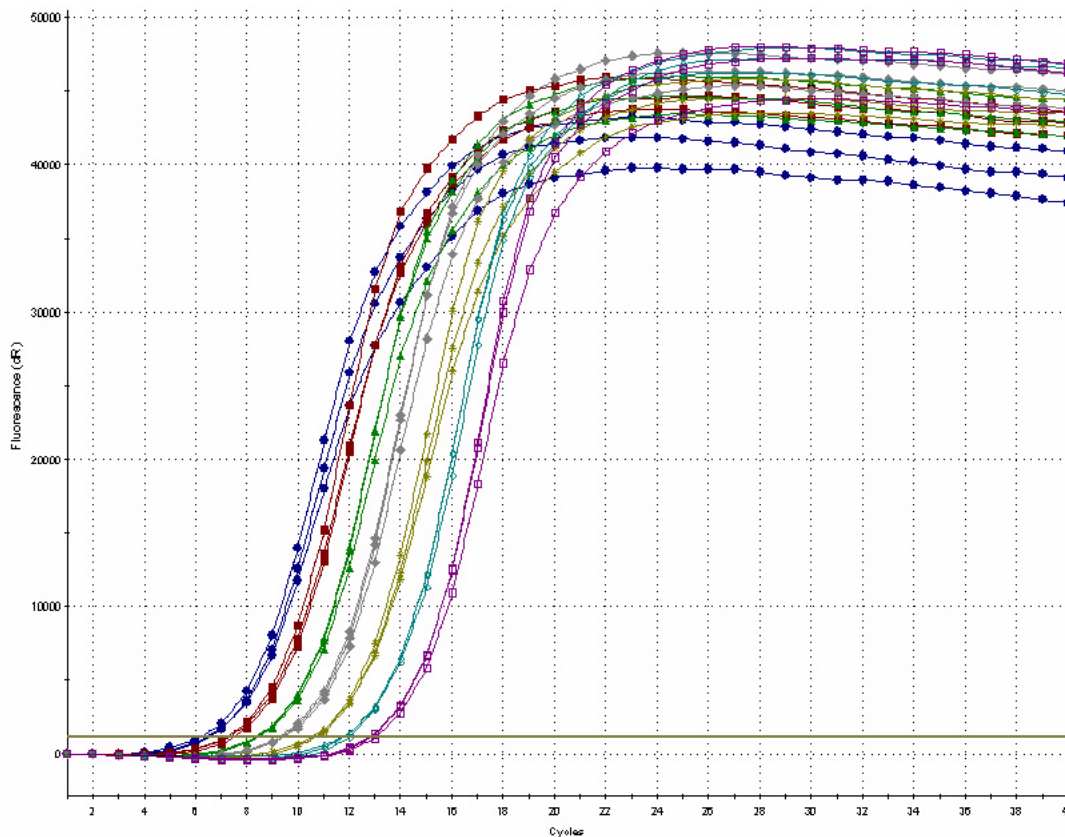

Figure 3 Example of Control Template Amplification
2. Ensure that there is good amplification for the control template and remove any bad replicates (Figure 3).